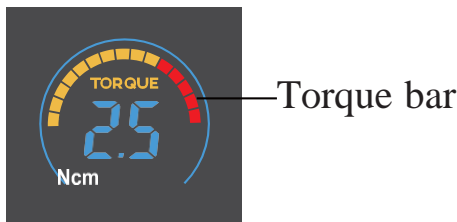

Fig. 4.9
- f) Torque value will be displayed on screen when working. (Fig. 4.9)